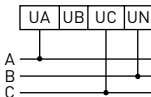

Fig. 2 - Direct voltmeter connection for  $U \leq 500V$
Voltmeters are connected to the circuit in parallel (Figures 2 - 5).
- Connect the device according to the diagrams in Figures 2 - 5.